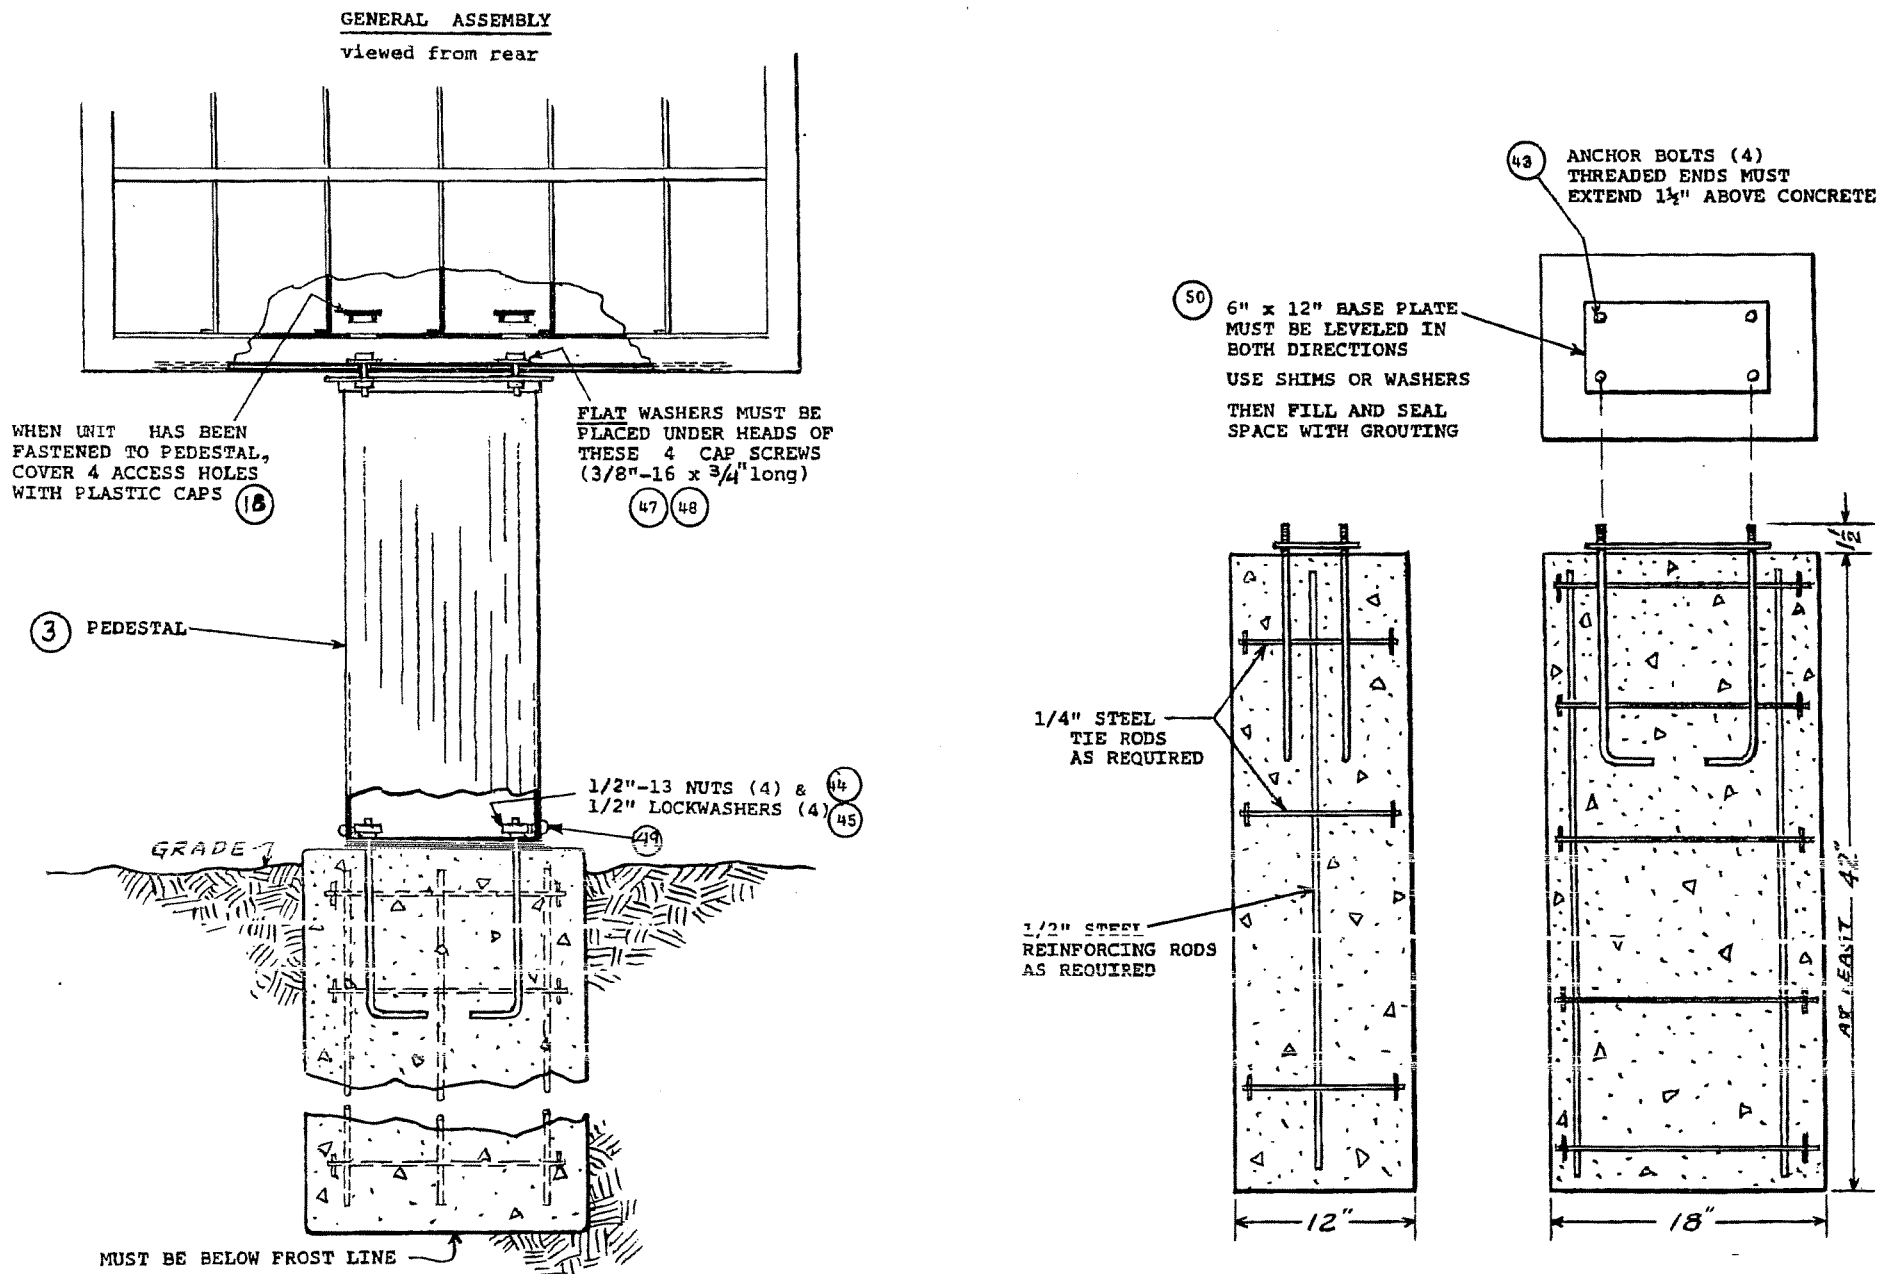
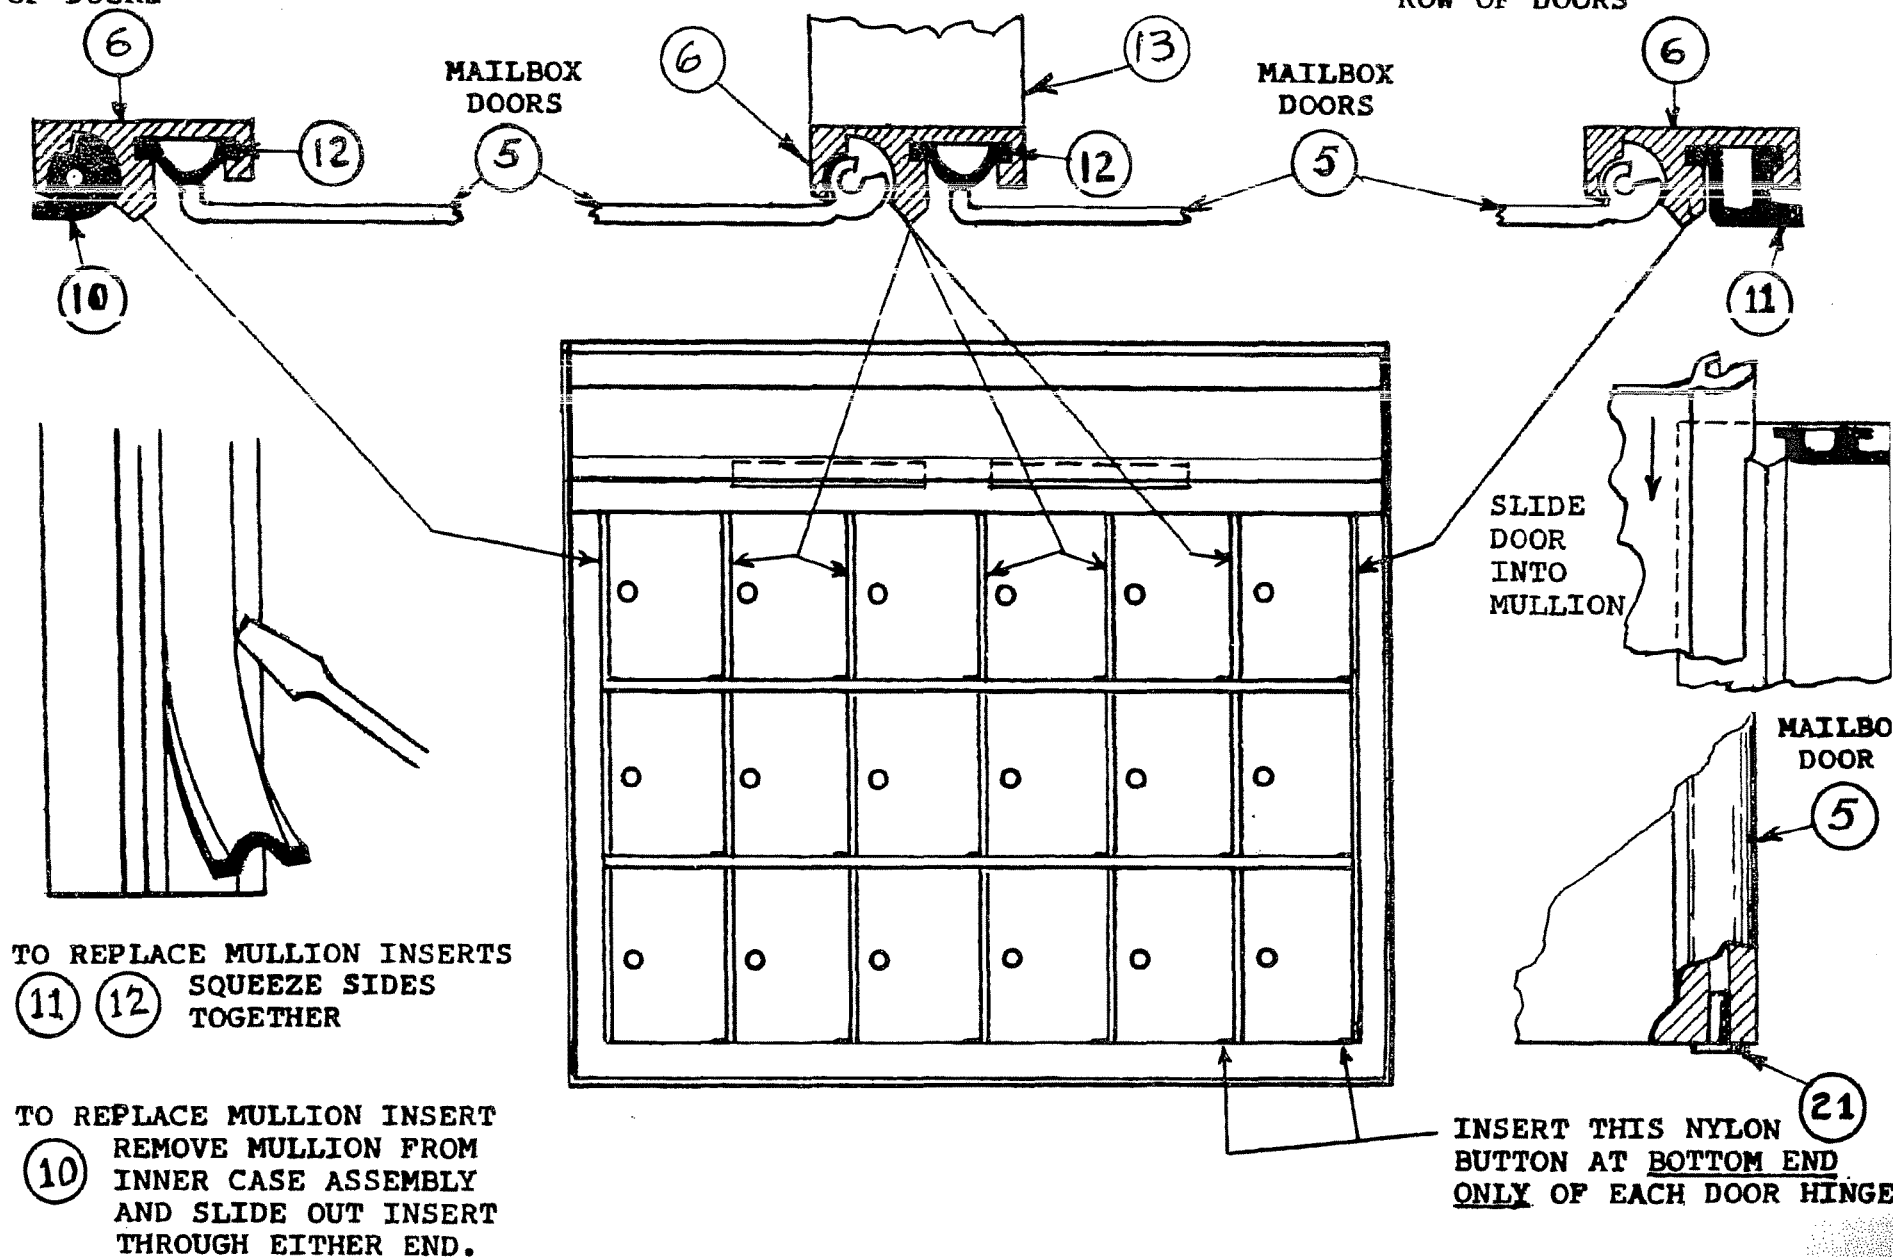

FIGURE 1
FIGURE 4
D. Installation - FIGURE 1
After site selection, prepare the site for concrete footing by excavating as illustrated in Figure 1. Concrete footing may be pre-cast or poured on-site. In either case, the footing should be properly back-filled and tamped to assure non-shifting. Concrete footing to be reinforced with 1/4 inch diameter steel tie rods and 1/2 inch diameter reinforcing bars (supplied by the concrete footing contractor) as illustrated. Four anchor bolts, item 43, supplied as loose parts, shall be located in the footing as indicated. The baseplate, item 50, may be used as a template to locate the anchor bolts. Each anchor bolt should project 1 1/2 inch above the concrete.
B. Mullion insert - FIGURE 4
1. Unlock and open mailbox door covering defective mullion insert, items 10, 11, or 12.
4. Push one edge of the insert into the groove in the mullion, item 6,
C. Door mullion - FIGURE 4
4. Grasping the door and mullion, items 5 & 6, at the bottom, pull outward approximately 1 1/2" and then down until it is removed from the unit.
7. Replace the 4 rivets, item 20, using the appropriate riveting tool.
D. Mailbox door - FIGURE 4
1. Use the same procedure as V-C-1 thru 8 except replace door, item 5, instead of mullion.
E. Mailbox unit--loose on pedestal - FIGURE 1
1. Unlock and open tambor door and remove 4 hole plugs, item 18, in the bottom shelf inside the mailbox unit.
F. Pedestal--loose on footing. - FIGURE 1
2. Using tools as described in V-E-2, remove the 4 bolts and washers, items 47 & 48 that secure the unit to the pedestal. Use extreme caution to prevent the unit from falling. Set the unit aside.
3. Tighten four hex nuts, items 44, as in I-D-2
G. Pedestal--damaged or defective - FIGURE 1
2. Using tools as in I-D-2 remove four hex nuts, item 44, that secure the pedestal to the footing. Remove defective pedestal.
3. Install new pedestal, item 3, as in I-D-2.
H. Malibox unit-damaged or defective - FIGURE 1